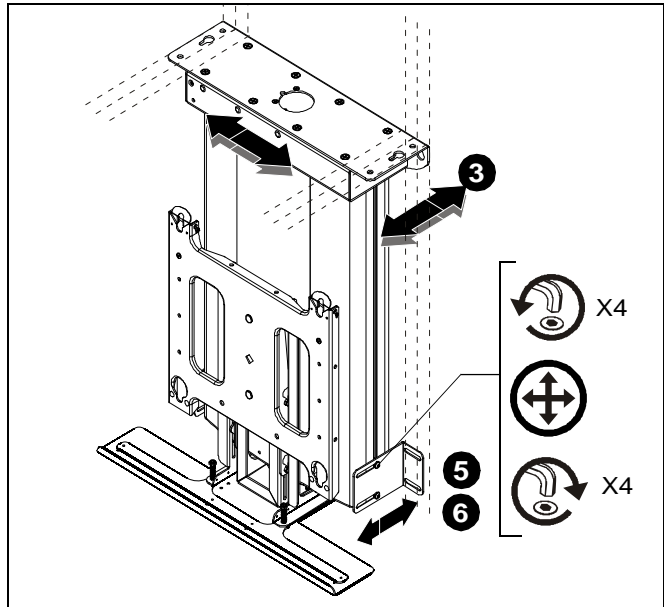

Figure 14
6. Tighten four screws to hold position of side mounting brackets. (See figure 14)